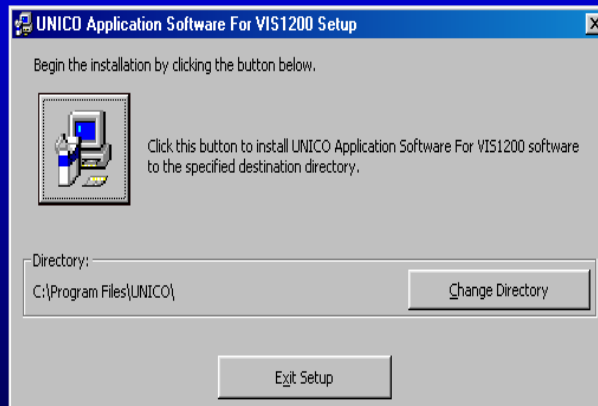

Figure-6 File Setup Directory Selection I
- Step 6: Choose the **Directory** and **Program Group** where you want the software to be installed as shown in Figure-6 and Figure-7. The **File Setup Directory 1** (Figure-6) will then appear. If the File Path selection is OK, then go to **Step 7**.